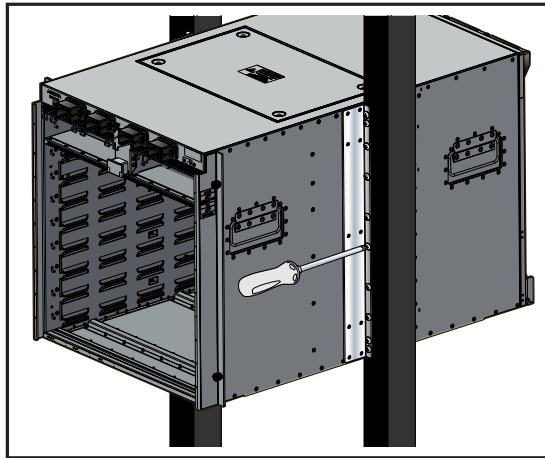

Figure 3-3: Attaching Flanges to the Rack Post
Step 4 Attach the bracket flanges to the rack posts (Figure 3-3). Space the screws evenly along the flange.